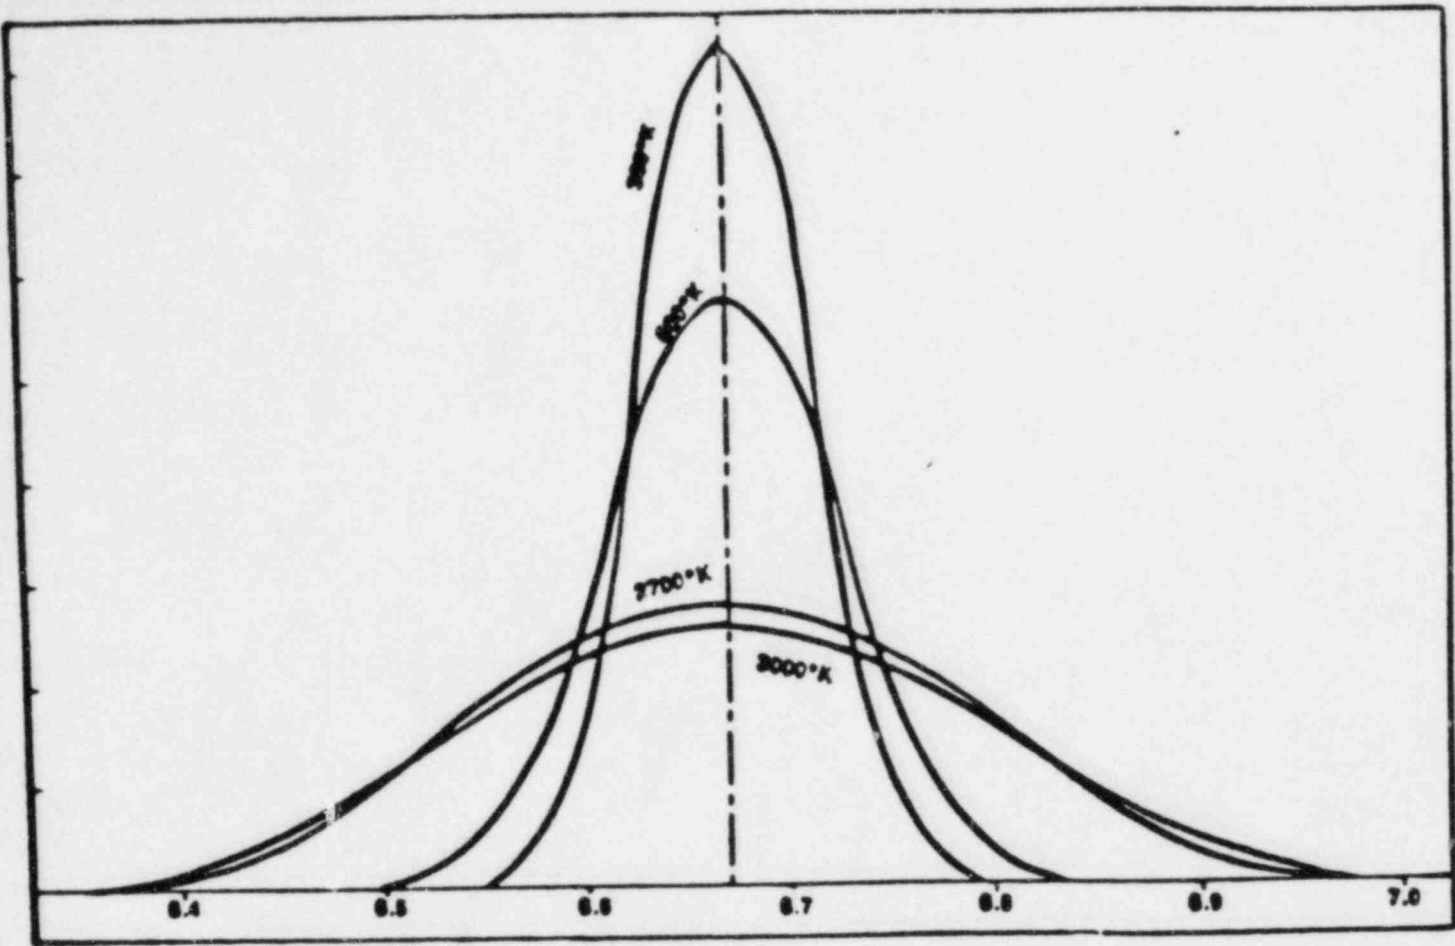

FIGURE 5.07
- 5.07 On attached Figure 5.07 is a representation of how the resonance peaks of U-238 "flatten out" or Doppler broaden as fuel temperature increases. Which of the following are the correct labels for the X and Y axes? (1.0)